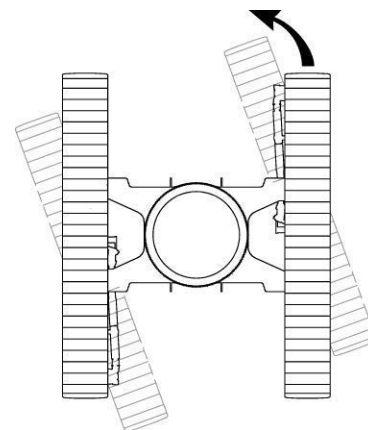

Figure 3-28. Travel Left (sharp turn)
- To make a SHARP LEFT TURN (Figure 3-28), move the right crawler control handle forward from the neutral position and leave the left crawler control handle in the neutral position. The crane will pivot about the left crawler.